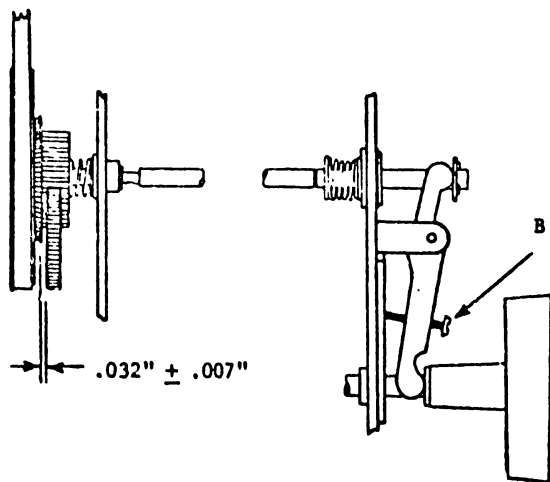
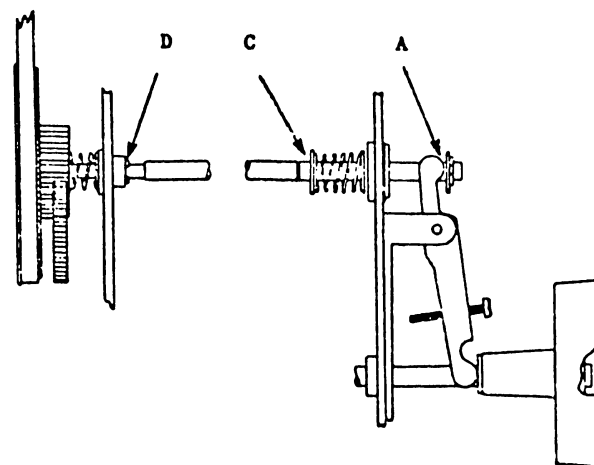

FIGURE 5-18 SPROCKET ADJUSTMENT
FIGURE 5-20 SPROCKET ADJUSTMENT
- 1) With each of the sprocket wheel covers closed, there should be a gap between cover and paper-feed sprocket of .025" to .039" (.64 mm to .76 mm). See Figure 5-18.
- 1) Remove horizontal vernier knob by removing allen screw from center of knob (Figure 5-20).
By using the horizontal vernier knob, push the vernier clutch in and out. With the use of a feeler gauge check for a clearance of $.032'' \pm .007''$ ($.081 \text{ cm} \pm .018 \text{ cm}$) between the idler gear and the cone gear as shown in Figure 5-18. Also when the knob is released after paper advancement the vernier clutch should fully re-engage flush with gear surface as shown in Figure 5-18. Also, when the knob is released after paper advancement, the vernier clutch should fully re-engage flush with gear surface as shown on Figure 5-20.
- 1) With clutch engaged (automatic advance) adjust allen screw in the center of horizontal vernier knob for a gap of $.021'' \pm .004''$ ($.053 \text{ cm} \pm .010 \text{ cm}$) between actuating arm and clutch rod washer (point A in Figure 5-20). (The screw can be adjusted through hole in horizontal vernier knob.)
- 2) With clutch disengaged (manual advance), adjust screw (B) for a $.032'' \pm .007''$ ($.081 \text{ cm} \pm .018 \text{ cm}$) gap between the cone gear and idler gear (Figure 5-18). (The screw can be adjusted through hole in horizontal vernier knob.)
- 1) Remove allen screw in center of horizontal vernier knob and slide knob off shaft. See Figure 8-5 of Section 8 and Figure 5-20.
- 2) Remove snap ring and washer from the extreme right end of the vernier activating rod. See Figure 5-20.
- 7) Remove snap rings, shaft spacers and two bushings from the vernier actuating rod and slide rod from the right to left out of the machine (Figure 5-20).